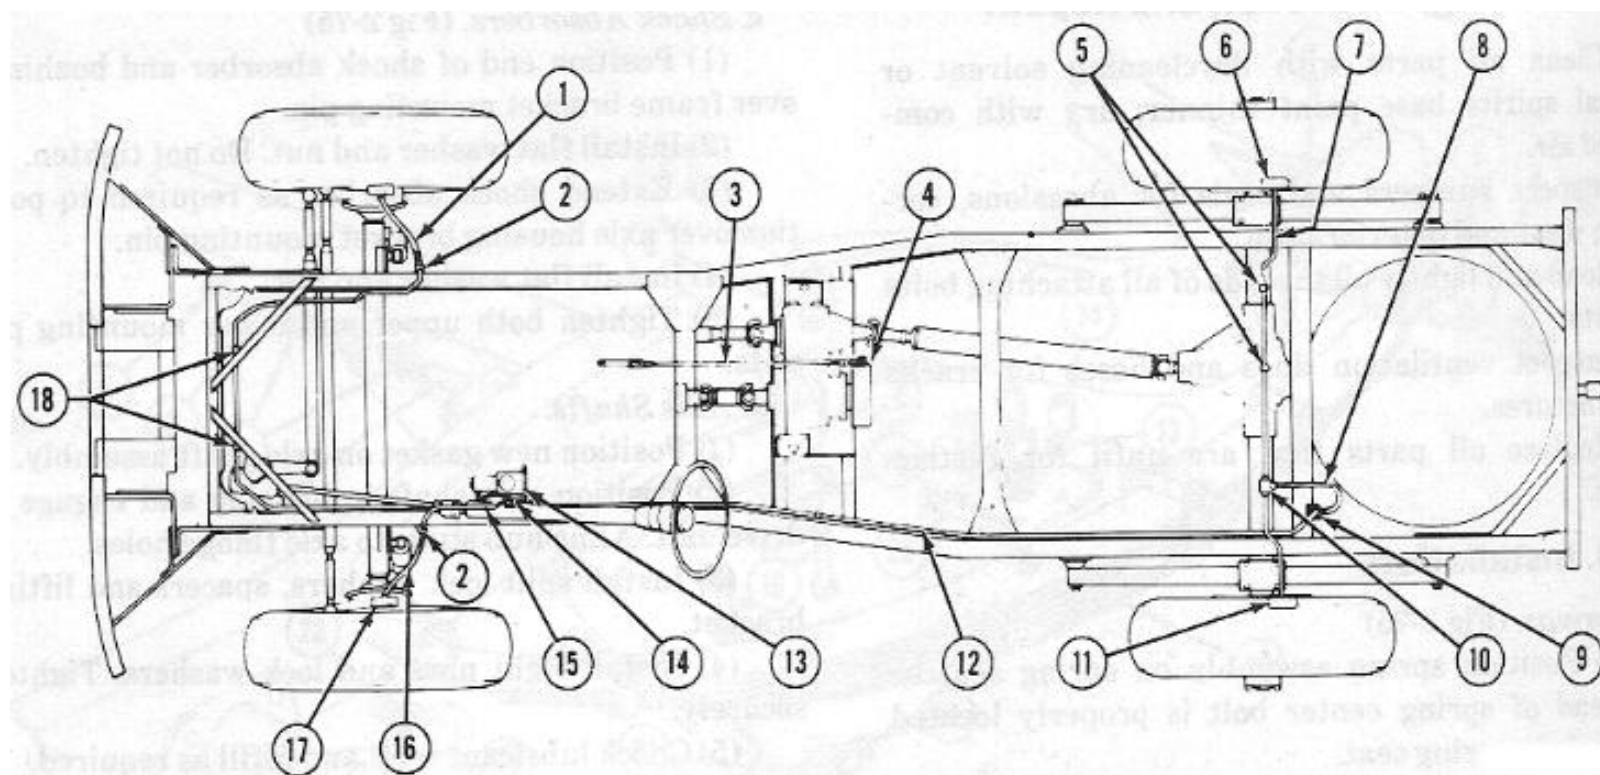

Figure 2-76. Brake system.
a. Service Brakes. The service brakes (fig 2-76) are the hydraulic type with full braking action at all four wheels. They are fully energized in either forward or reverse directions. Brakeshoes are full floating and self-centering. The master cylinder is mounted on the firewall in the engine compartment. The piston within the master cylinder receives mechanical pressure from the brake pedal push rod and transmits it through the brake lines as hydraulic pressure to the wheel cylinders. This pressure forces the pistons in the wheel cylinders outward, expanding the brakeshoes against the drums bringing the vehicle to a controlled stop. The brake mechanism is protected from dirt and mud by the channel formed at the outer edge of the backing plate into which the brakedrum recesses when